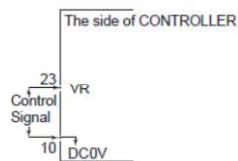

Fig. 45
**When applying the DC0V to DC+10V, never input more than DC+10V (Fig. 45). This will cause serious damage to the I / O Board in the CONTROLLER.**